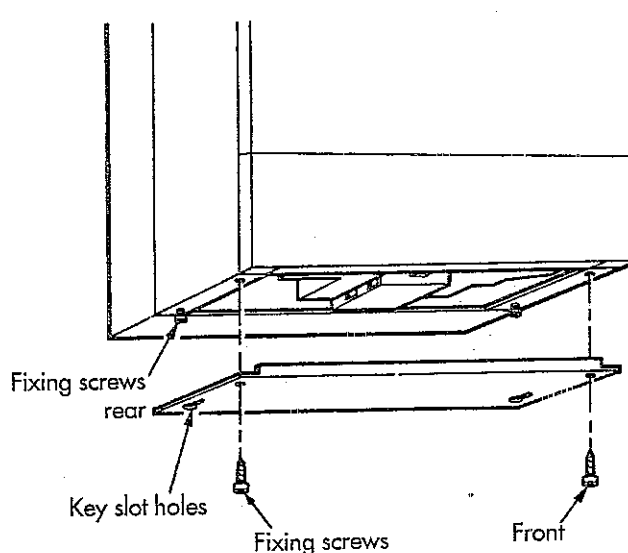

Fig. 16
- 4.2 Remove the boiler base plate, four screws (fig. 16). Remove the plugs fitted to the boiler water connections. Remove the bag of sealing washers from the boiler pipe work.
- 5.2 Remove the boiler base plate, four screws (fig. 16). Remove the plugs fitted to the boiler water connections. Remove the bag of sealing washers from the boiler pipework. Remove the front panel by gripping on both sides and pulling away from the main boiler.